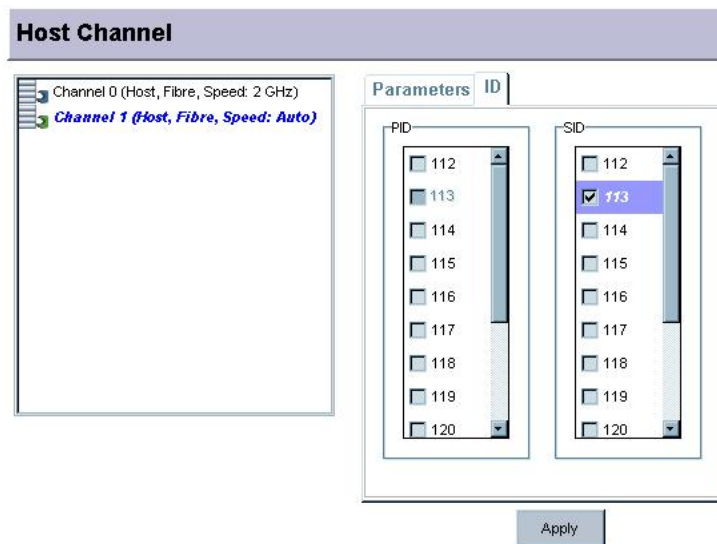

Figure 8-5: ID Pool Menu
**Step 3.** If you want to assign a different ID to the selected channel, choose the **ID** panel. An **ID pool** scroll menu will appear as shown in *Figure 8-5*.